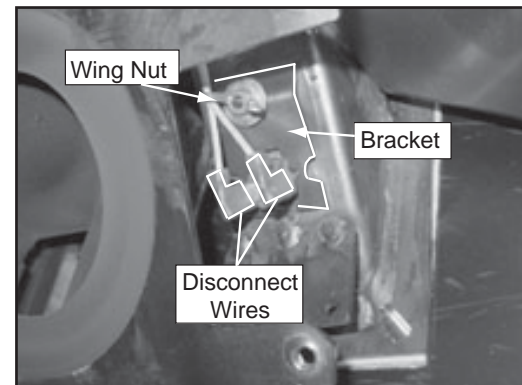

Figure 21.3
- Disconnect wires from snap disc #2. **Figure 21.3.**